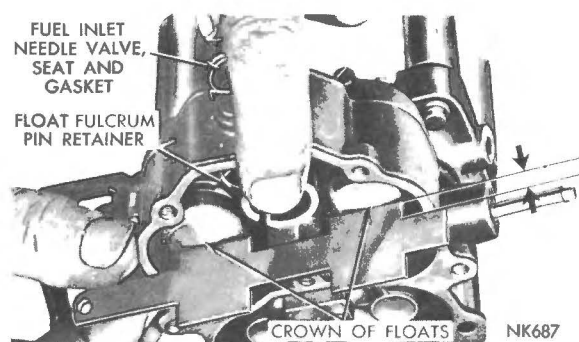

Fig. 9 Measuring the Float Setting
(1) Install the floats with the fulcrum pin and pin retainer in the main body.
(2) Install the needle, seat and gasket in the body and tighten securely.
(3) Invert the main body (catch the pump intake check ball) so that the weight of the floats only, is forcing the needle against the seat. Hold finger against retainer to fully seat the fulcrum pin.
(4) Using Tool T109-282 or a "T" scale, check the float, as shown in (Fig. 9). There should be  $\frac{1}{4}$  inch from the surface of the fuel bowl to the crown of each float at the centre.